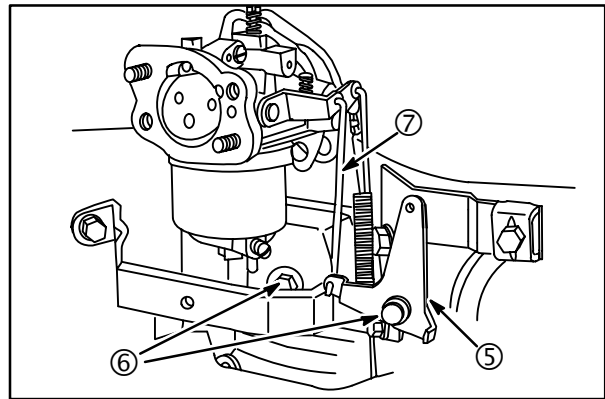
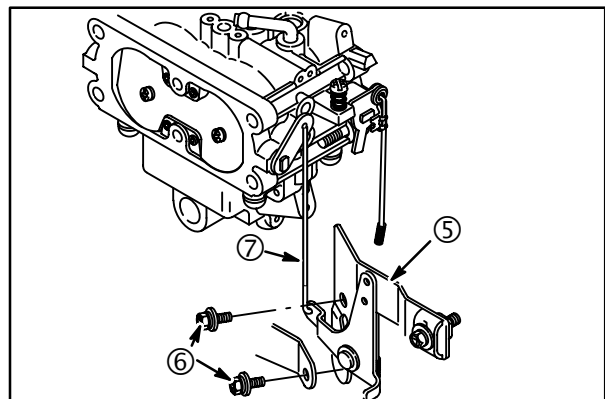

**Fig. 25**
**Fig. 26**
- Connect governor link (3) to throttle lever (1). Snap retainer (2) over link, **single barrel carburetor, Fig. 25, two barrel carburetor, Fig. 26**.
- Install governor link spring (4) in loop on retainer.